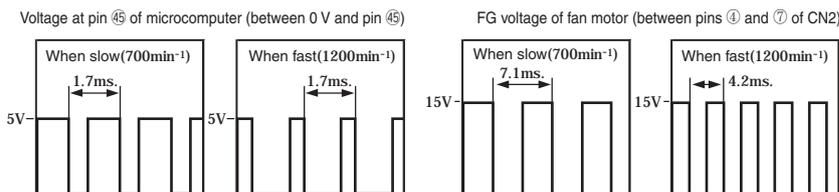

Fig. 3-2
- The VS receives a command voltage from the microcomputer (IC601). The VS terminal undergoes an analog voltage that matches the Lo level time ratio of the pulse signal from pin ④ of the microcomputer. (See Fig. 3-2.)